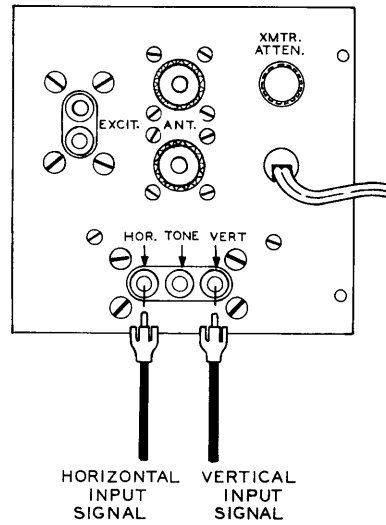

Figure 6
**OSCILLOSCOPE USE (FIGURE 6)**